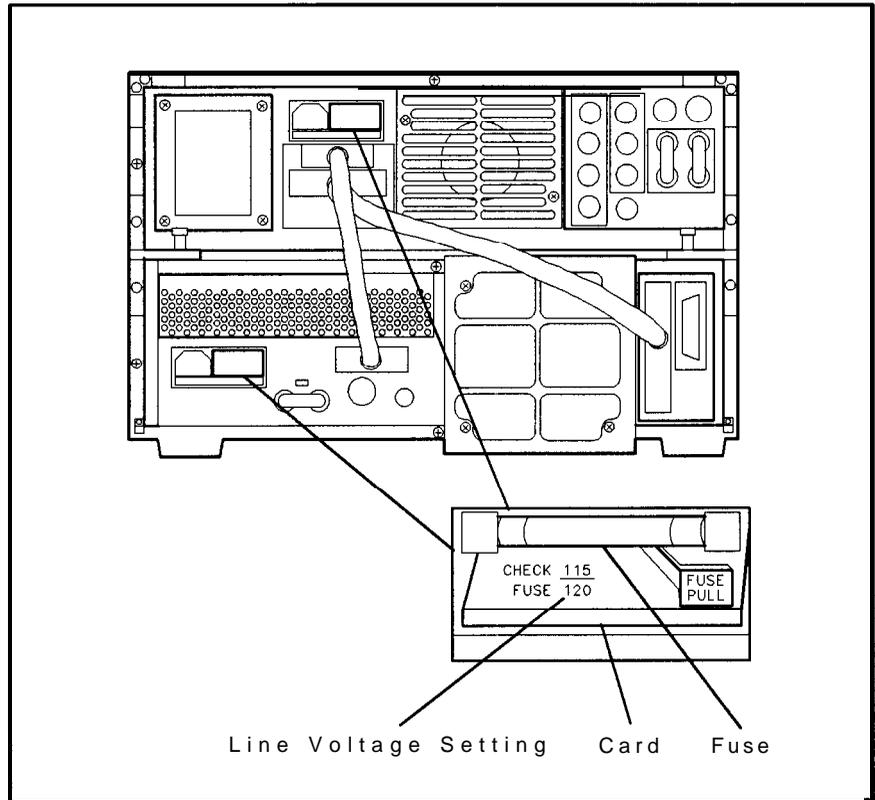

Figure 2-2. Voltage Selector Board and Fuse
7. On each instrument section, slide open the power module's fuse cover (located on the rear panel). See Figure 2-2. Push the fuse-pull lever to the left. Remove the fuse.
8. On each power-line module, check the voltage selector card for the proper ac line voltage. The card's voltage setting should be visible on the card. See Figure 2-2. If you need to select a different ac line voltage setting, perform the following: